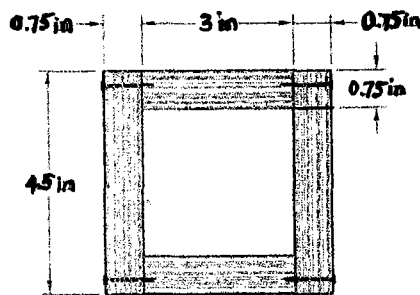

Figure 2/Gambarajah 2
2. A square box beam is made of two 0.75×3 inches planks and two 0.75×4.5 inches planks, nailed together as shown in **Figure 2**. Knowing that the spacing between nails is 1.75 inches and that the beam is subjected to a vertical shear of magnitude $V = 600 \text{ lb}$, determine the total force per unit length and the shearing force in each nail.